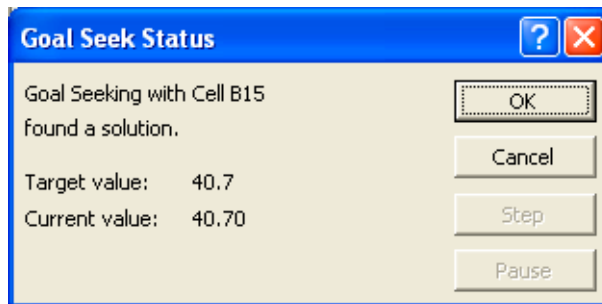

Figure 11 Goal Seek status
- Click **OK**. The function finds the inlet pressure to restore the column average linear velocity to 40.7 cm/s (Figure 11).